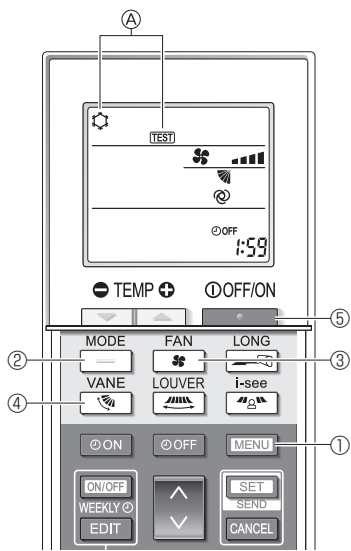

Fig. 8-5
- 2. Press the **MENU** button ① for 5 seconds. (Fig. 8-5)
Ⓐ [TEST] and the current operation mode are displayed. (Fig. 8-5)